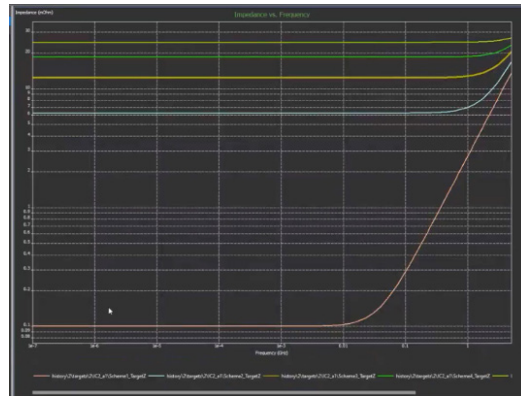

Figure 28: Results from target impedance simulation
Step 2: Once the IC model is defined, the target impedance needs to be generated. In the background various other Sigirty tools are being used to provide various target impedances that can be fed back to the board package designers. After the simulation is completed on the target impedance, Figure 28 shows the results. This reflects the multiple solutions that will meet the given power ripple spec, along with the PWL of the IC.